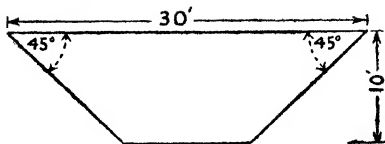

FIG. 53.
A water tank is 10 ft. broad in a direction perpendicular to the diagram (Fig. 53), which shows the elevation is 10 ft. deep. Find the total pressure on (1) the bottom of the tank, (2) the sloping side of the tank, and (3) the vertical end of the tank, when the tank is full of water.